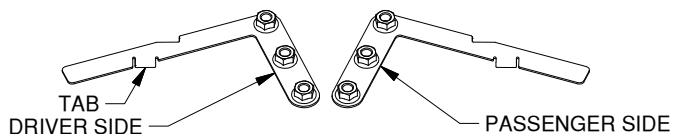
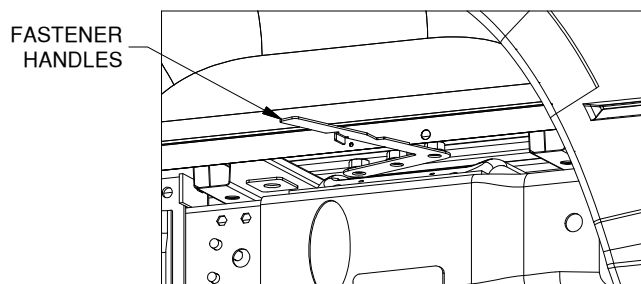

Figure B2: Fastener handles.
Figure B3: Looking at passenger side wheel well.
2. **Install fastener handles.** Identify the driver and passenger side fastener handles by comparing the parts to figure B2. Place the fastener handles between the frame cross member and the bed on their respective sides, see figure B3. Use the handle welded to the nuts to guide them into place. Once the nuts are positioned, lower the handle so that the tab on the bottom side of the handle fits in the hole as shown in figure B4. This will help guide the nuts into position while the center section is installed. Make sure that the three nuts are directly over the holes in the frame.